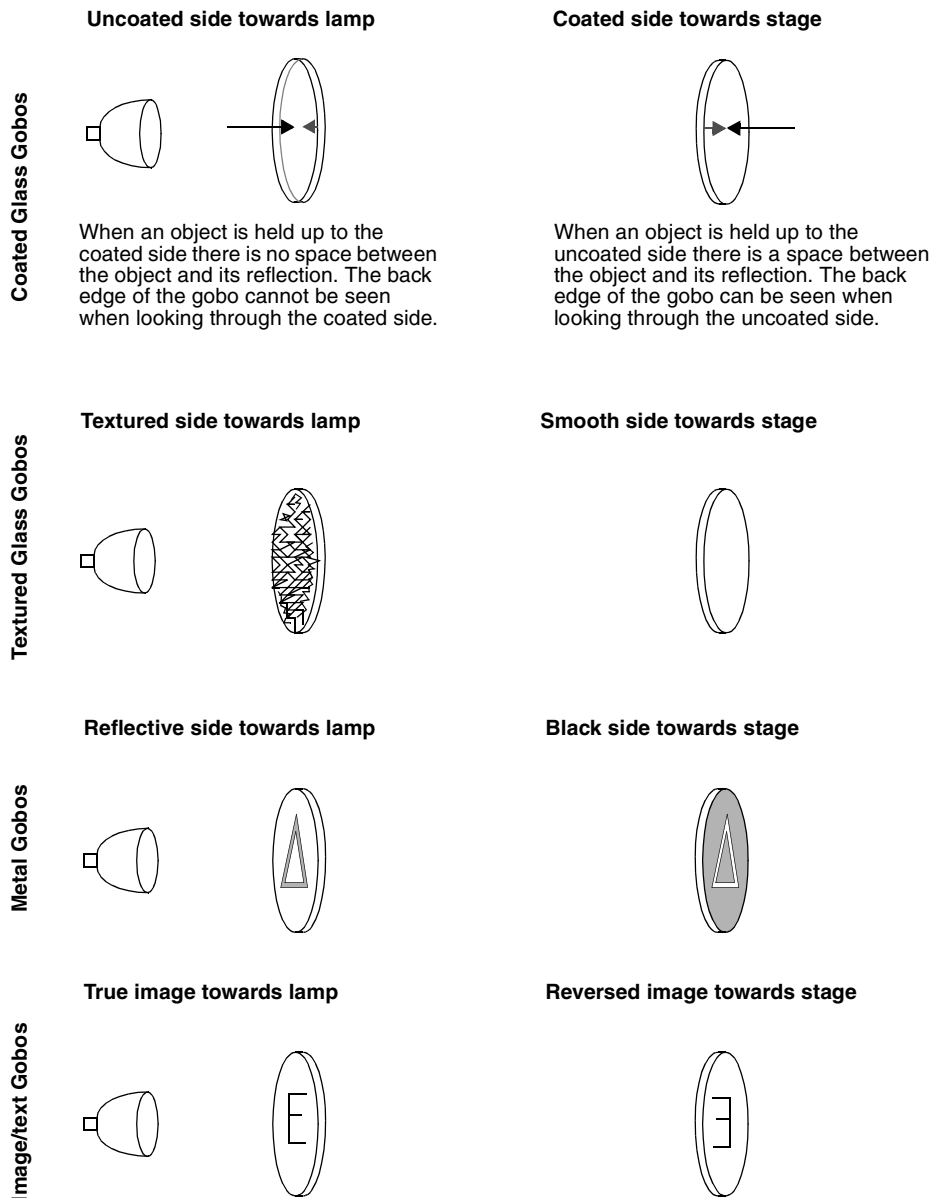
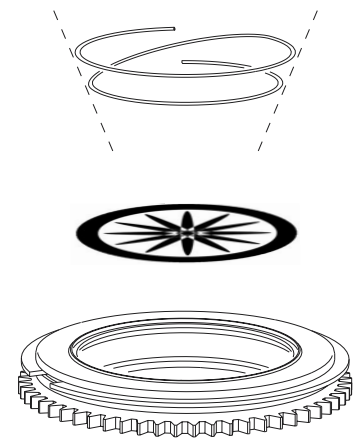

Figure 9: Gobo orientation
Figure 10: Rotating gobo holder
Figure 9 shows the correct orientation for different gobo types. When in doubt, install gobos with the more reflective side towards the lamp.
- 4 Insert the new gobo in the holder with the “stage” side down, away from the spring. See Figure 9 and Figure 10.
- 4 To insert a gobo, orient the gobo as shown in Figure 9 and place the edges under the retention spring. Verify that the gobo is centered in the opening.